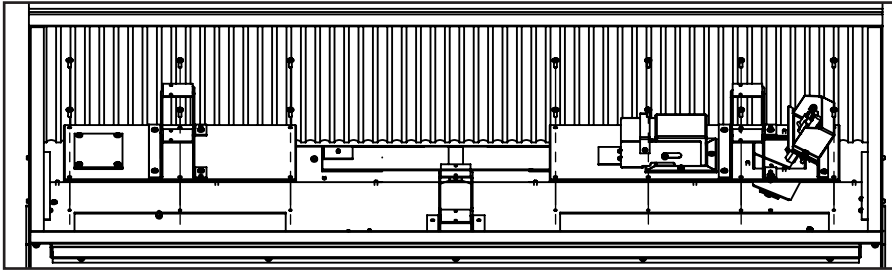

Figure 10: Removing Access Door
2. Remove the (14) T-20 bolts retaining the access panels as shown in Figure 10.